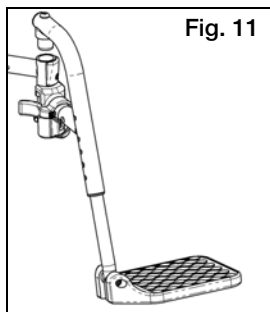

Fig. 11
- a. Place swing away pivot saddle into the receiver on front frame tube with the footrest facing either inward or outward from the frame (Fig. 11).
- Place swing away pivot saddle into the receiver on front frame tube with the footrest facing either inward or outward from the frame. Similar to swing away footrest pictured in Fig. 11 and 12.